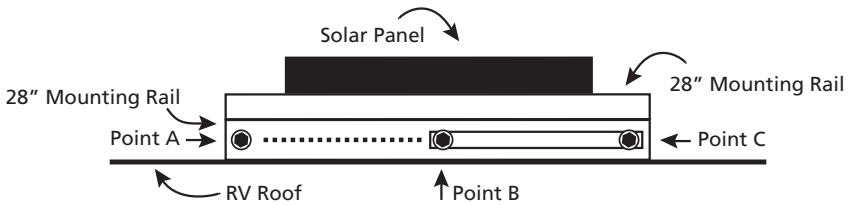

Fig. 10 Travelling Mode
13. Lower the 28" mounting rails and the 14" brackets so that the square holes of each set of the mounting rails and brackets align with each other and the solar panel is flat (Fig. 10).
14. Using the  $\frac{1}{4}$ "- 20 x 1" carriage bolts and the  $\frac{1}{4}$ " wing nuts, secure the structure in this position (Fig. 10).